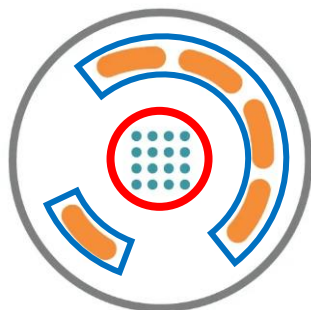

Figure 2. Droplet Placement Diagram
2. Pipette **5 µl of Fibronectin coating solution** to the center of the wells in a manner that forms a **droplet over the measurement electrodes** as described in **Figure 2**.
- ▼ This step determines the seeding placement of the cells – covering all the measurement electrodes is best. It is preferable to avoid covering reference electrodes on the perimeter. Please refer to figure 2 for droplet placement.
6. Discard the coating solution and pipette 5 µl of cell suspension to the coated area in a manner that forms a **drop over the area** (Figure 2).